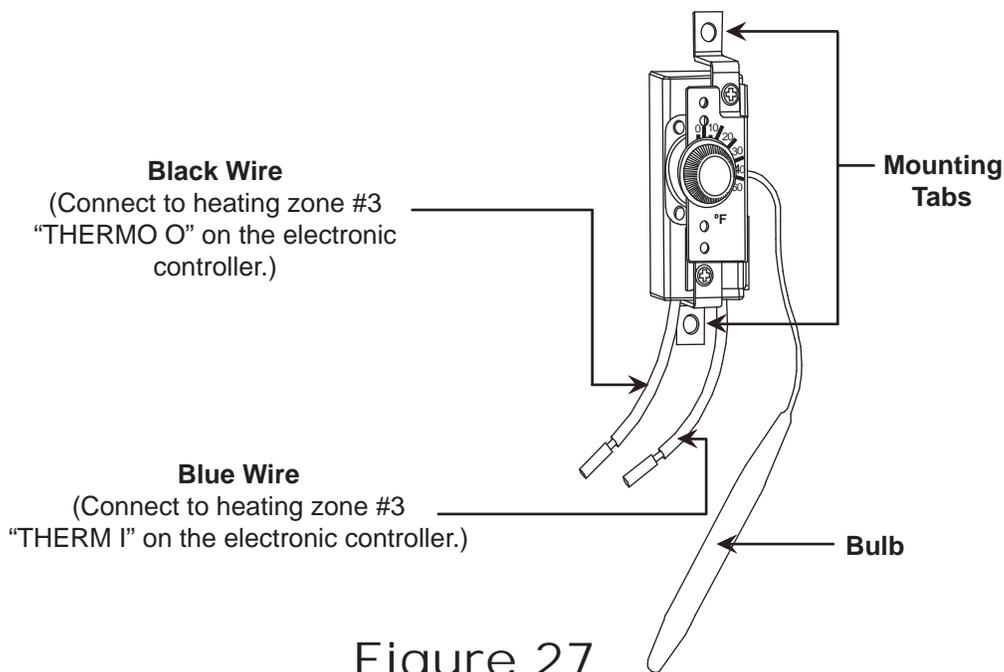

Figure 27
Typically only the bulb of the thermostat needs to be physically mounted in the area requiring heat (usually in close proximity to the domestic water pump). Reference Figure 27.
The selected mounting location should allow for easy operator access. Reference Figure 27.
2. Once the thermostat has been completely wired, permanently mount the thermostat in place. Reference Figure 27.
3. Connect both wires to the appropriate leads of the thermostat. Reference Figure 27.